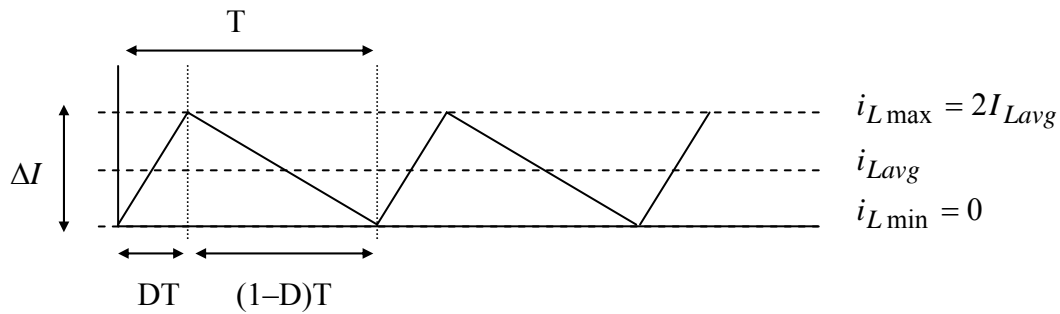

Figure 5. Inductor Current at the Boundary of Continuous Conduction
The boundary of continuous conduction is when $i_{L\min} = 0$, as shown in Figure 5.
Using Figure 5 and the “inductor discharging” slope from (3),